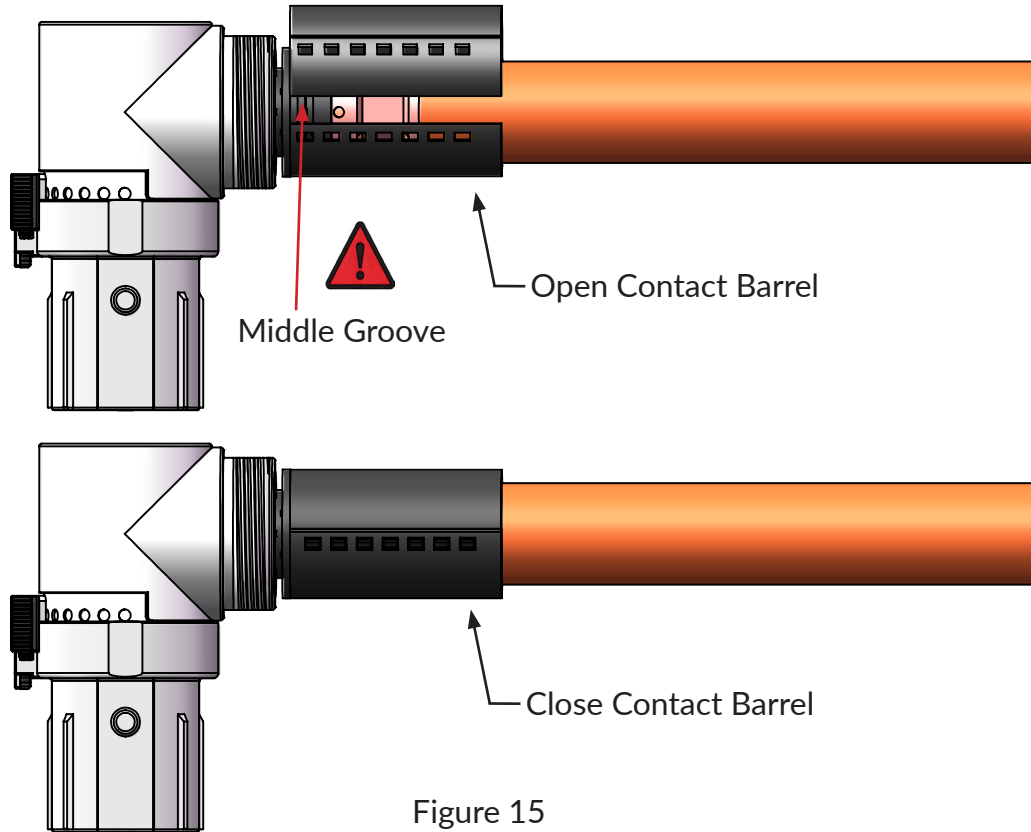

Figure 15
1) As figure 15 shown, assemble the contact barrel into middle groove of the rear insert, - can't be assembled to other groove, otherwise withstanding voltage of the connector will be affected;